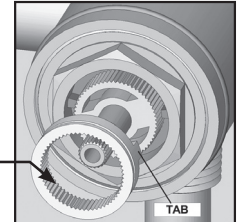

FIG. 3
4. Remove the temperature ring by placing the blade of a knife into the groove and prying it off. FIG. 3. It is not necessary to remove the inner hex nut.